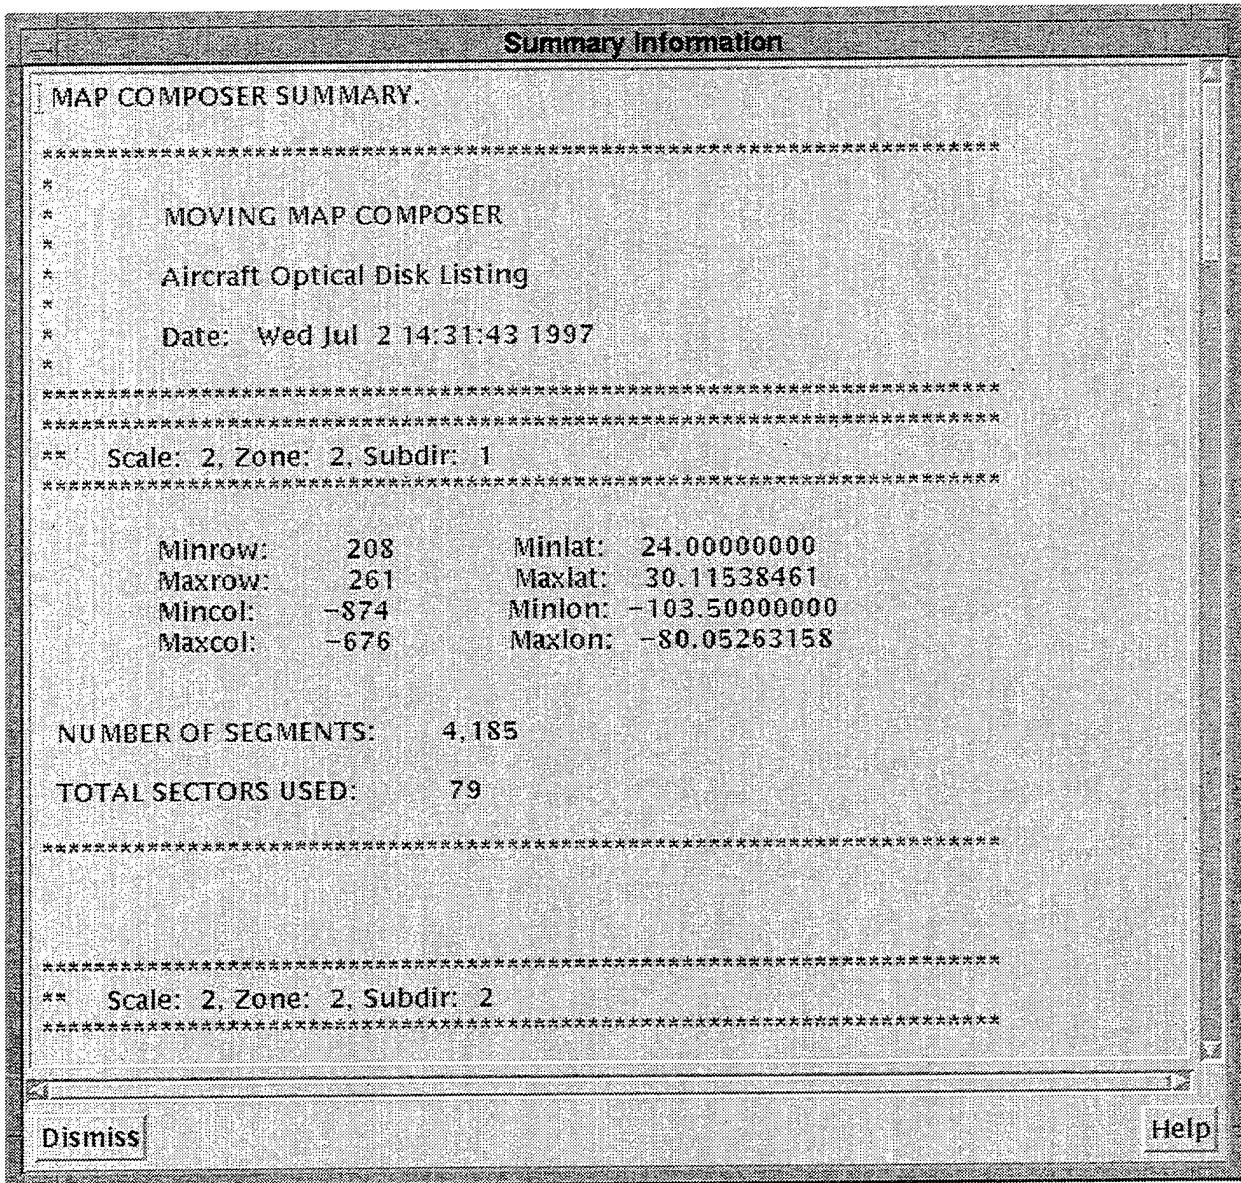

Fig. 32 — Sample AOD summary listing
3.3.6.1.1 Generate AOD Summary—Generates a summary of any existing AOD composition, composition in development, or final AOD image (Fig. 32). For each zone, scale, and subdirectory in the composition or image file, *AOD Summary* provides the minimum and maximum latitude and longitude, the number of CAC segments defined, and the number of sectors that would be used if the image were written to an AOD. The summary also gives the total number of bytes in the composition.